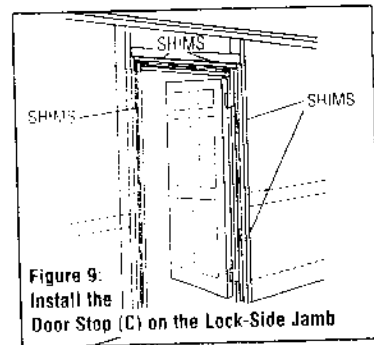

Figure 9: Install the Door Stop (C) on the Lock-Side Jamb
Once the door is swinging smoothly, shim and nail the perimeter of the frame with 2-1/2" finishing nails. Nail through shims into rough opening jack studs (Fig. 9). Install the door stop (C) on the lock-side jamb when the door is in the closed position.